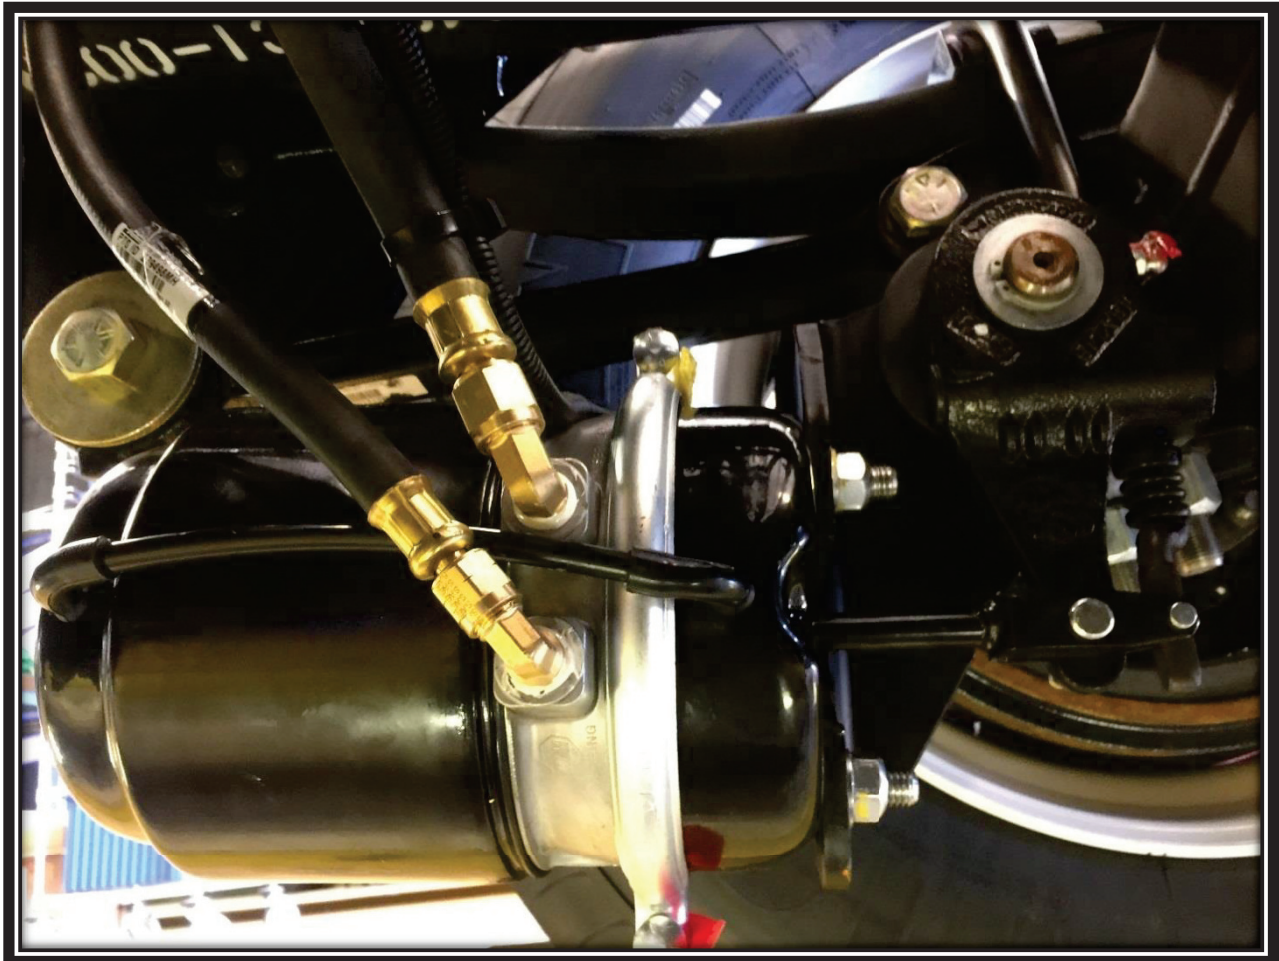

FIG. 3-1
3. Re-connect brake chamber air lines using supplied 90-degree fittings. Orient hoses and fittings as shown in FIG. 3-1.